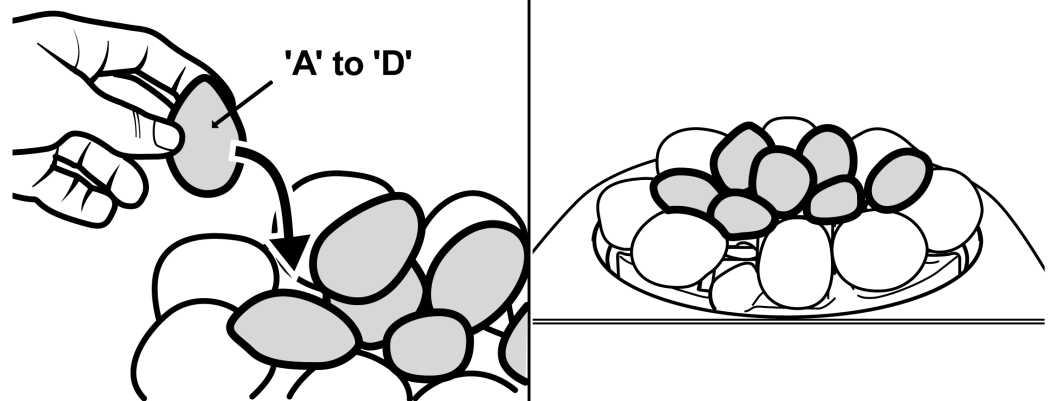

Figure 35 Pebbles lettered 'A' to 'D' Location
9. There are seven pebbles lettered 'A' to 'D' on the underside. Locate these evenly over the top of the first layer of pebbles (See figure 35). To optimise the flame picture it may be